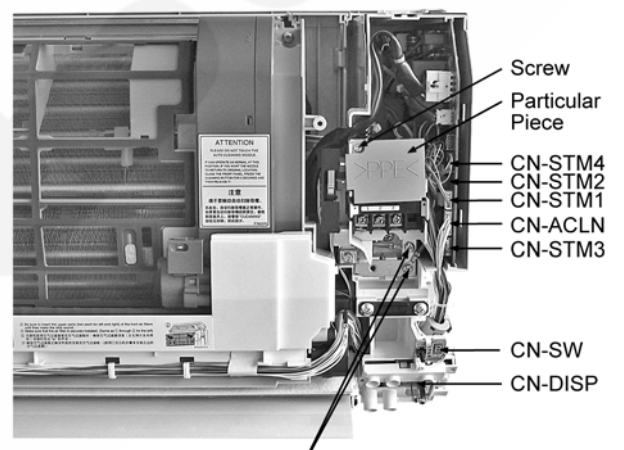

Fig. 4
- 7. Remove the Particular Piece by screw. (Fig. 4)
- 8. Remove the Earth Wire screws. (Fig. 4)
- 9. Releasing CN-STM4, CN-STM2, CN-STM1, CN-ACLN, CN-STM3, CN-SW & CN-DISP (Fig. 4)